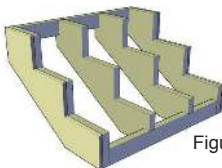

Figure 1
- Follow same guidelines listed in the Fascia/Skirt Board section (fig. 1)